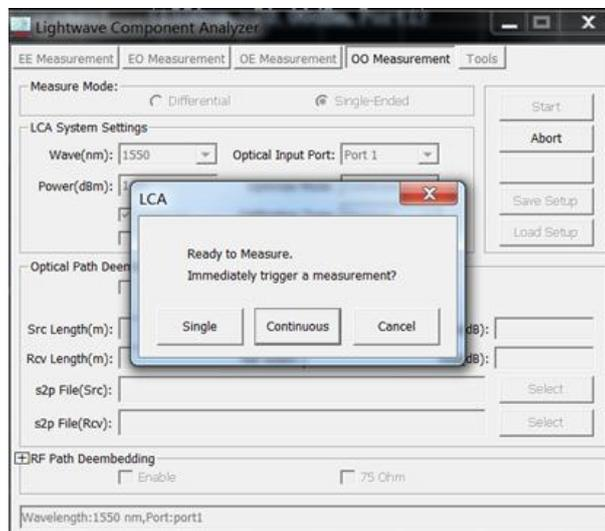

Figure 4.32 Optical/optical test-optical component test interface
- 16) Click single/continuous in the pop-up dialog shown in Figure 4.32 to begin measurement.